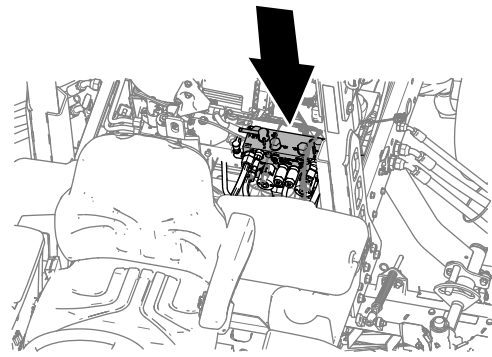

Figure 110
- Rotate the front, rear, or both backlap levers to the R (backlap) position (Figure 110).